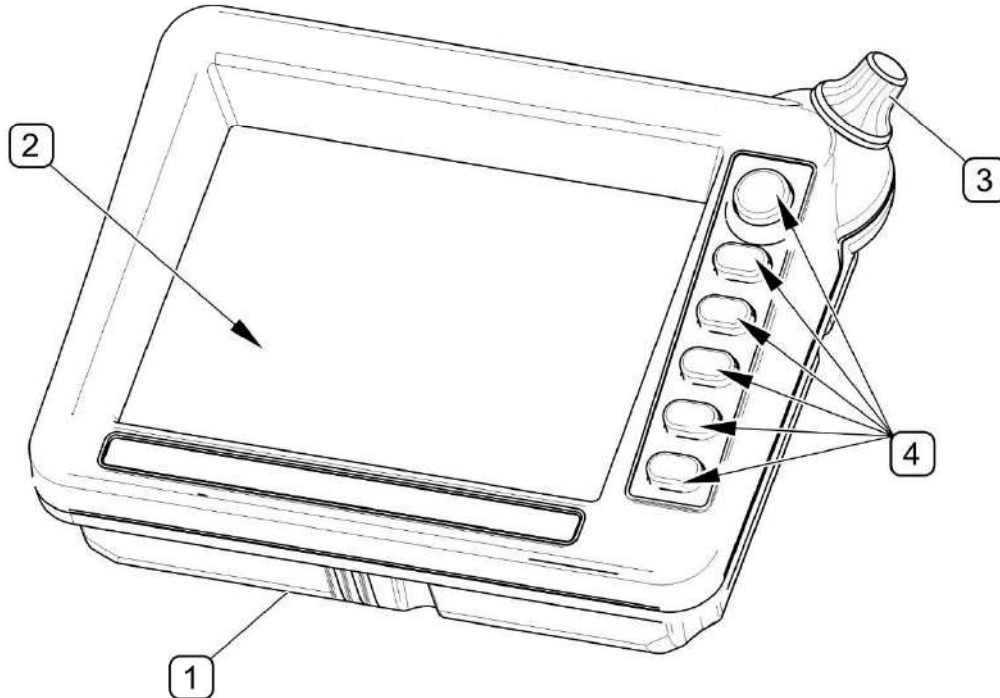

FIG. 4.17 General design of control panel
(1) - enclosure; (2) - LCD display ; (3) - parameter change knob; (4) - function push-buttons
Control panel (FIG. 4.17) consists of enclosure (1), colour LCD display (2), parameter change knob (3) and six function push-buttons (4).